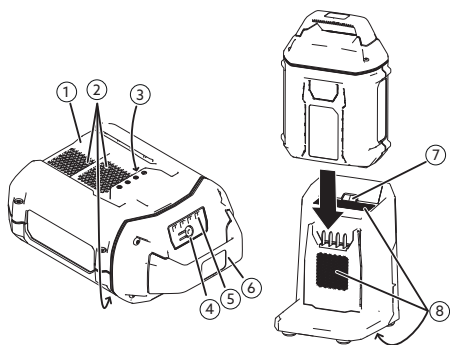

Figure 2
6. Line up the cavity in the battery pack (Figure 2) with the tongue on the charger.
8. Slide the battery pack into the charger until it is fully seated Figure 2.